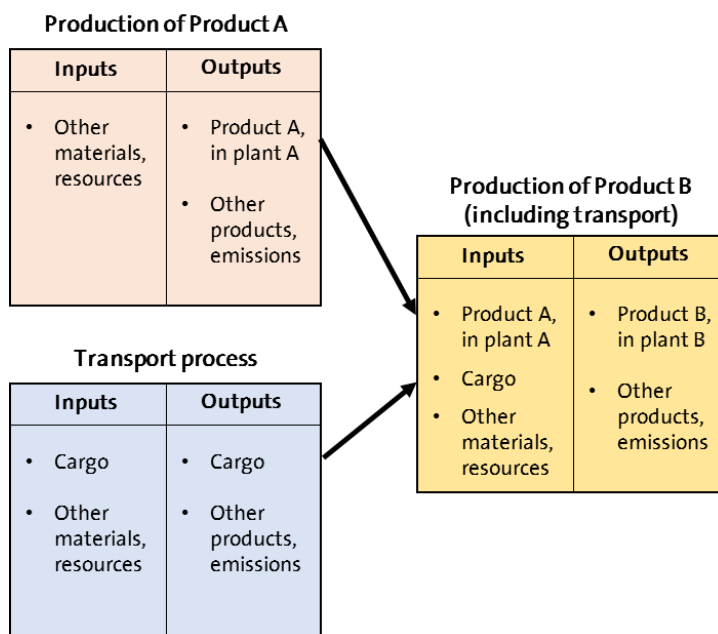

Figure 11. Option 3 suggested for transport modelling using GaBi databases in openLCA.
- **Option 3:** Include the transport in the production/use/disposal process dataset. This approach will be similar to the transport modelling followed in other databases such as ecoinvent. The cargo flow added as input in the correspondent process with amount equal to the product to be transported will have as provider the last transport process of the chain you created. Consequently, the product in the e.g. manufacturing process will not represent the “product, at plant” but “product, at destination”. This will be connected to the next process of the LCA directly. The cargo input flow of the first transport process in the chain you created will remain unconnected. You can also connect it to a “Dummy” process (i.e. no impact associated with it; it will contain only the cargo flow as output) if you want to avoid the flow to be listed in the inventory results (Figure 11).